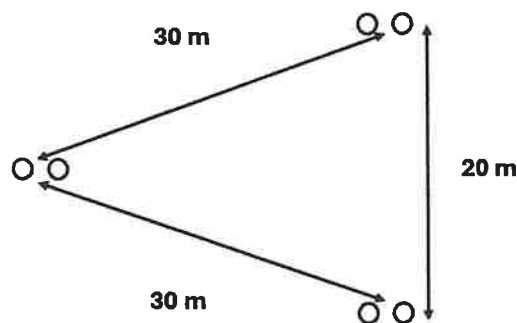

Figure Q1. c).i): Relative positions of the conductors in the transmission line (not to scale).
- Determine the per phase inductance per unit length of the 3-phase transmission line using twin bundled conductors shown in Figure Q1.c).i). The line is regularly transposed, and all the conductors are of radius **1.5 cm**. The distance between the twin conductors is **20 cm**. Other distances are as shown in Figure Q1.c).i).